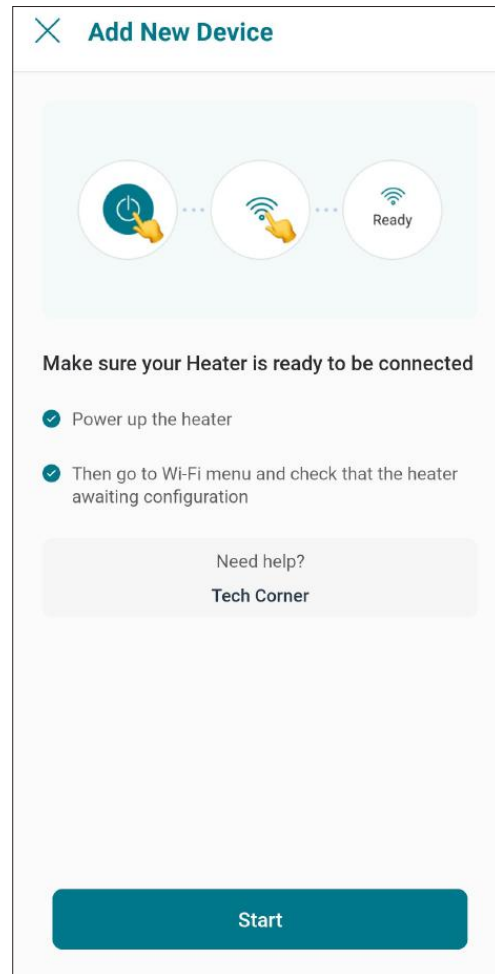

Figure 76. Check your Device
2. "Check your Device" screen will appear. Ensure to have Crosswind V heater powered and Wi-Fi signal available in the area, then press "Start" button. See Figure 76.